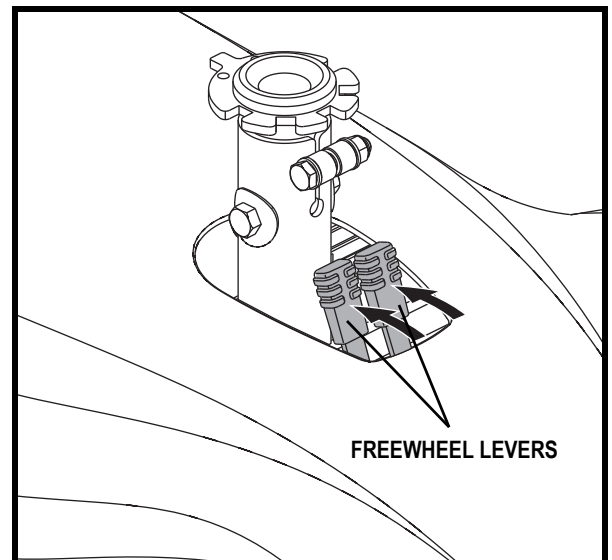

Figure 6. Freewheel Mode (Drive Disengaged)
3. Pull both levers rearward toward the seat post to disengage the drive motors (freewheel mode). See figure 6.